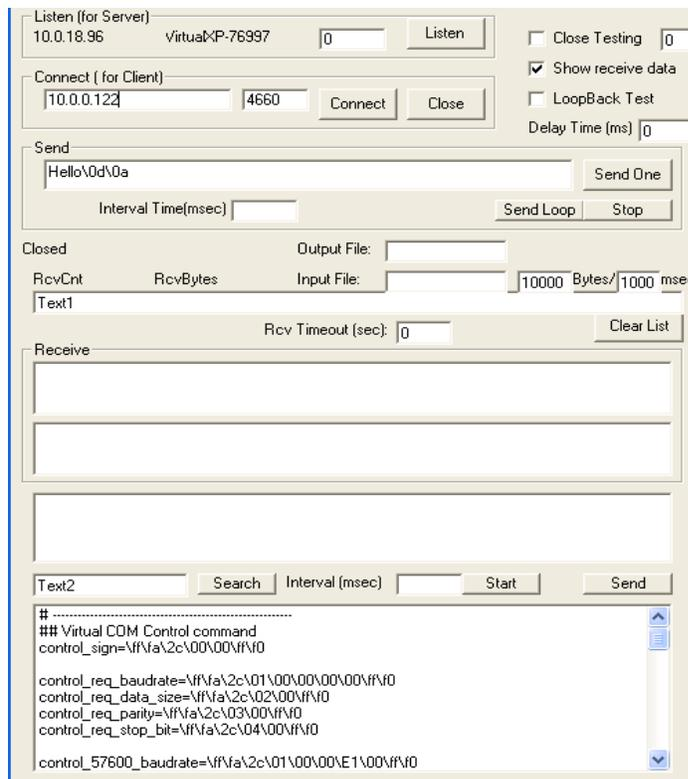

Figure 5.3 Setup TCPTtest.exe for COM port loopback test
- 3) Connect loopback for COM1 and execute TCPTtest from MS-Windows as Figure 5.3